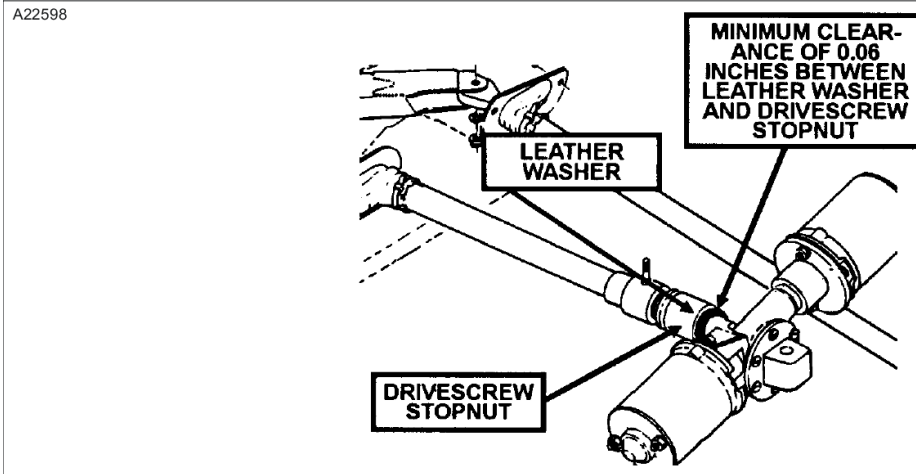

Figure 518
- (4) Adjust Full Down stopbolt in small increments to obtain a clearance of at least 0.06 inch between the leather washer next to the flap actuator transmission and the drivescrew stopnut. (Refer to Figure 518)